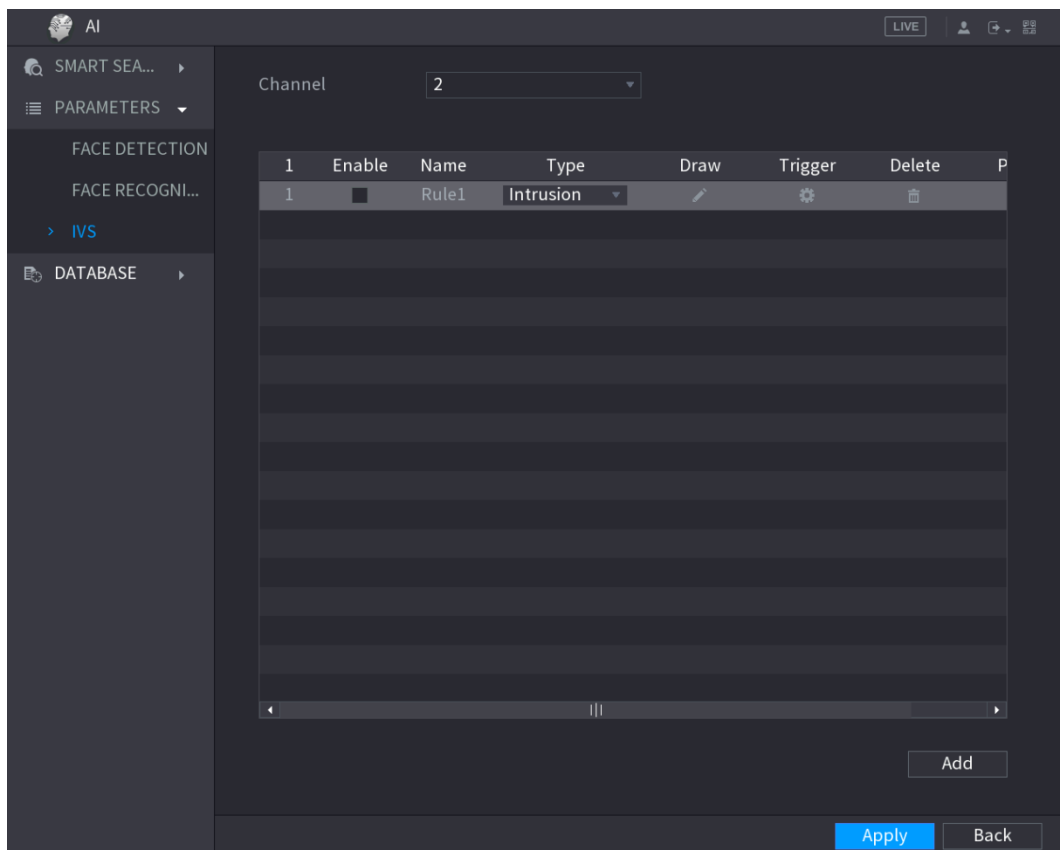

Figure 5-169
Step 1 On the rule line that you added, in the **Type** list, select **Intrusion**. See Figure 5-169.